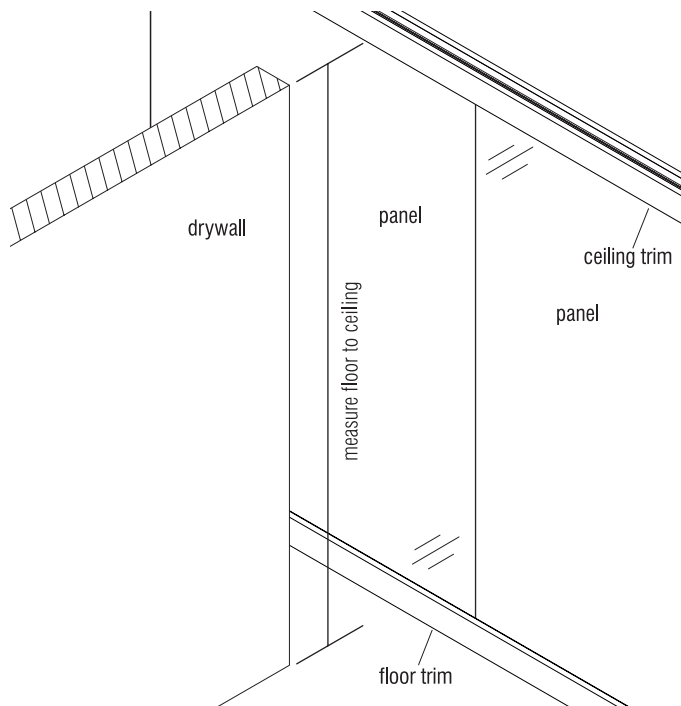

Figure 2
2. Per space-planning layout, panels must be installed, including the ceiling and floor trim. Please reference pages 8 through 16 of this instructions (Figure 2).
3. Measure from the finished floor level, up to the underside of ceiling tile to determine the overall length of the inner (50.1818) and outer drywall bypass mullion (50.1819) (Figure 2).